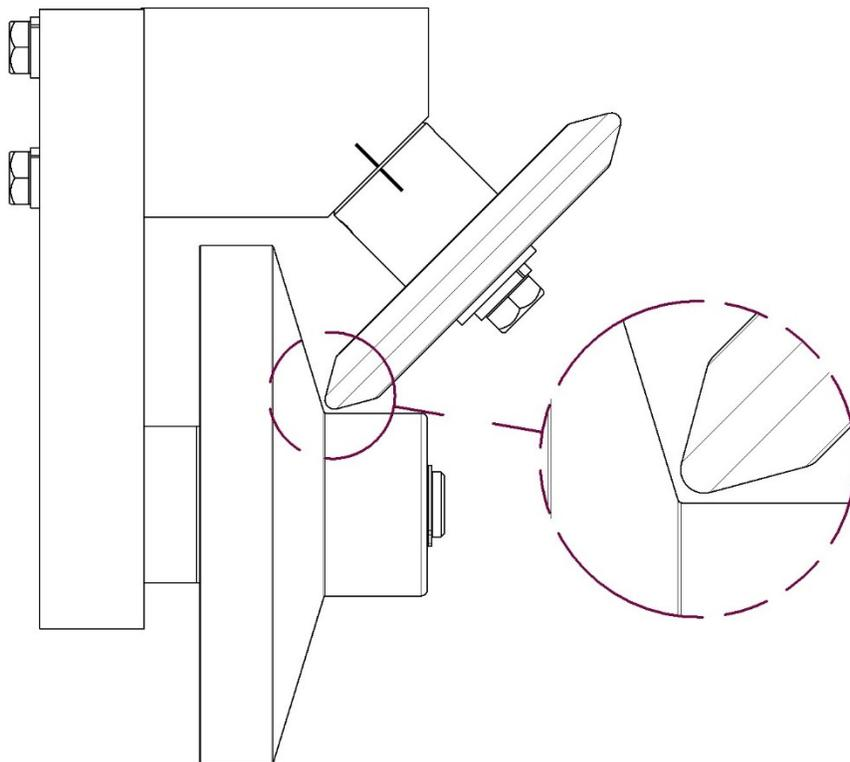
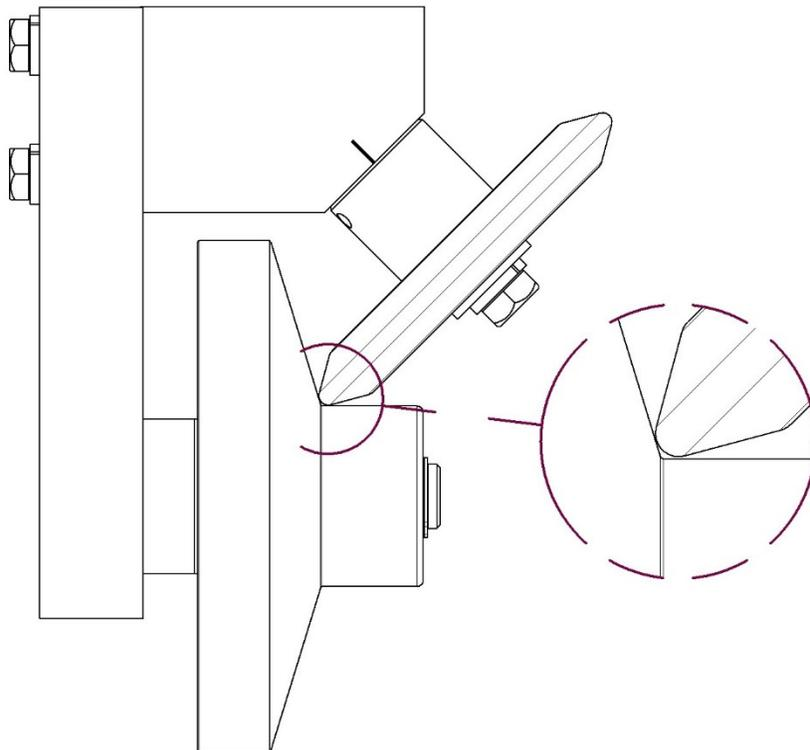

Figure 79: Eccentric Shaft Proper Adjustment
Figure 81: Eccentric Shaft Too Tight
3. Rotate the shaft to the desired angle. (See Figure 79 - Figure 81).